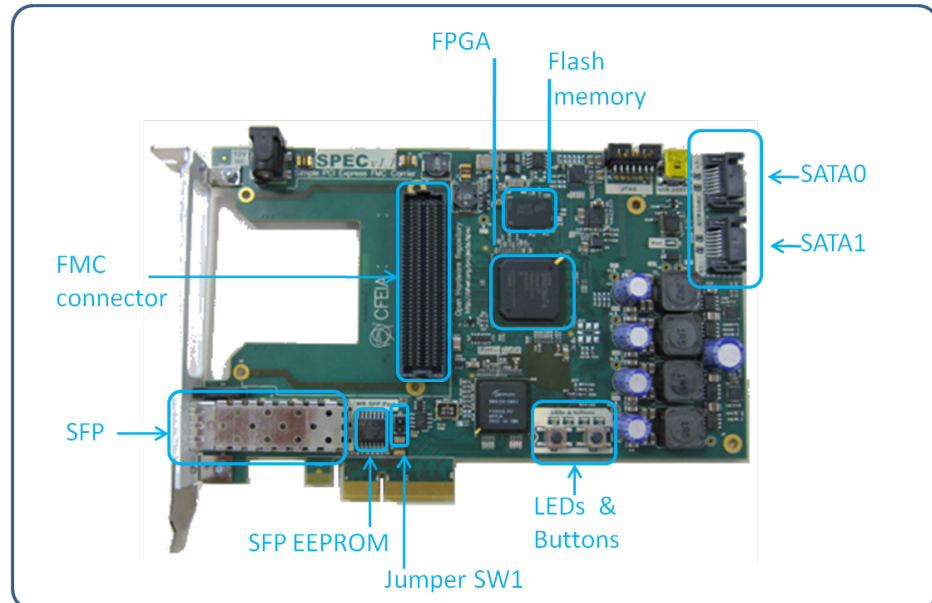

Figure 2: SPEC board top view
- 4) On the SPEC board under test, place the provided jumper on SW1 as figure 2 indicates.